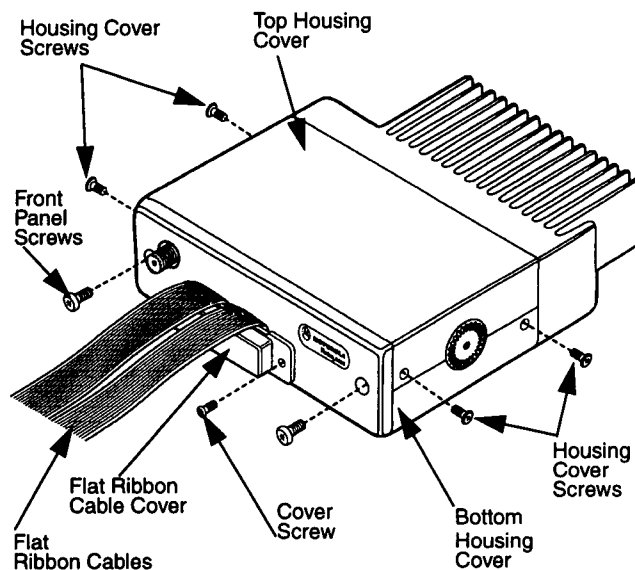

Figure 1-1.
1. Remove the flat ribbon cable cover screw using a T10 Torx® driver (Figure 1-1).
2. Gently remove the two flat ribbon cables from the 27-pin connector (Figure 1-1).
3. Remove the two front panel screws using a T20 Torx driver (Figure 1-1) and pull front panel off.
4. Remove the four housing cover screws using a T10 Torx driver (Figure 1-1).